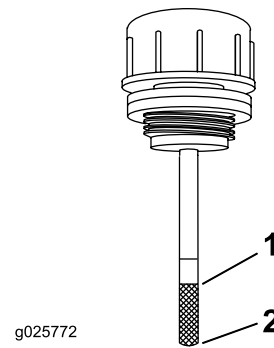

Figure 61
6. Clean the area around the dipstick of the hydraulic-system reservoir (Figure 61).
7. Remove the dipstick from the hydraulic reservoir (Figure 61).
9. Remove the dipstick and look at the end (Figure 61). If the oil level is at the add mark, slowly pour only enough oil into the hydraulic reservoir to raise the level to the full line.